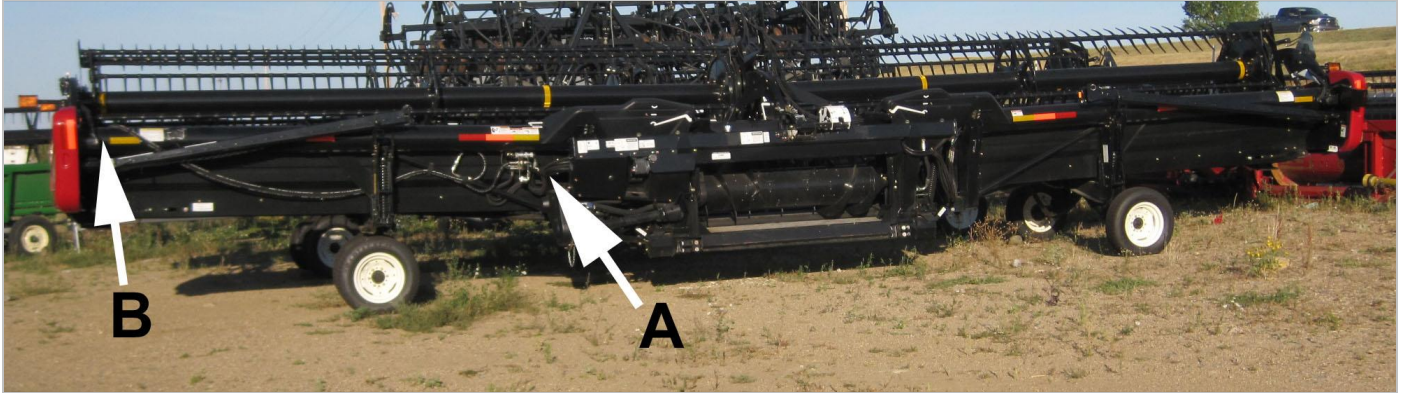

FIGURE 4 2011 HYDRAULIC HOSES ON FD70 / CASE 2162
4.5. FIGURE 4 LEFT HAND BEARING MOUNT 974